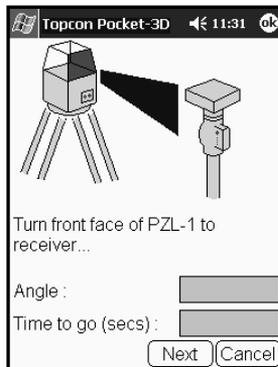

Figure 4-7. Begin Adjustment
7. Press **Next** to begin the first phase of the adjustment (Figure 4-7).